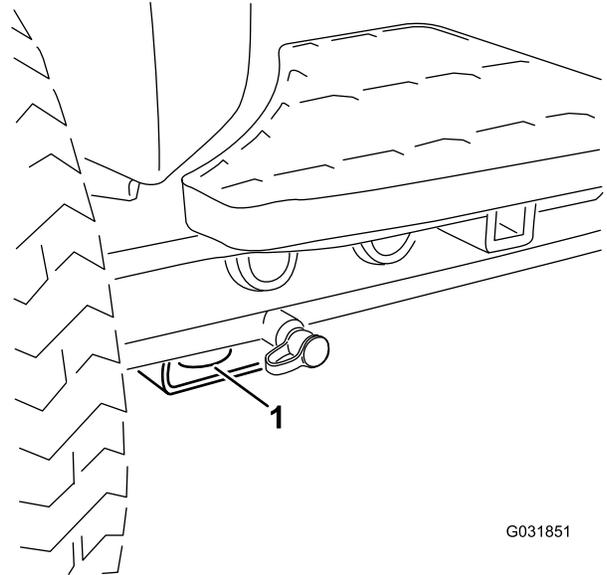

Figure 69
- Tie the machine down securely. Both front and rear straps should be directed down and outward from the machine; refer to Figure 69 and Figure 70.
- Front—the hole in the rectangular pad, under the axle tube, inside each front tire (Figure 69)